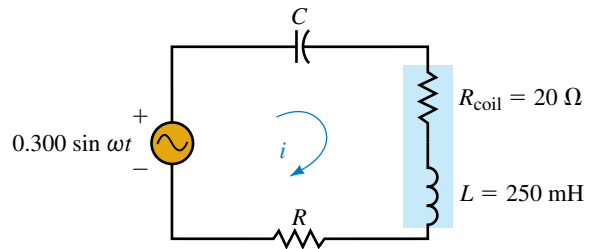

FIGURE 21-51
6. Suppose that the circuit of Figure 21-51 has a resonant frequency of $f_s = 2.5$ kHz and a quality factor of $Q_s = 10$: